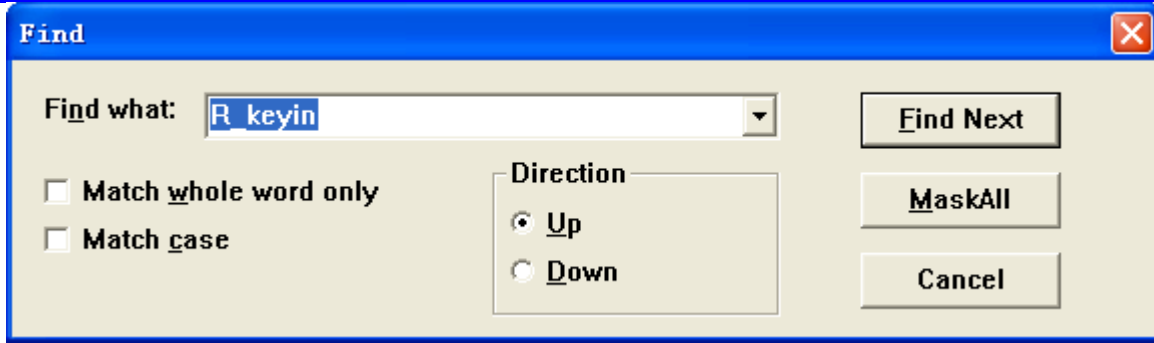

Figure 2-13 Information box to find register in the current file
Step 1: Execute Edit --> Find command, or press the shortcut icon  to find, and a dialog box will pop up, as shown in Figure 2-13;